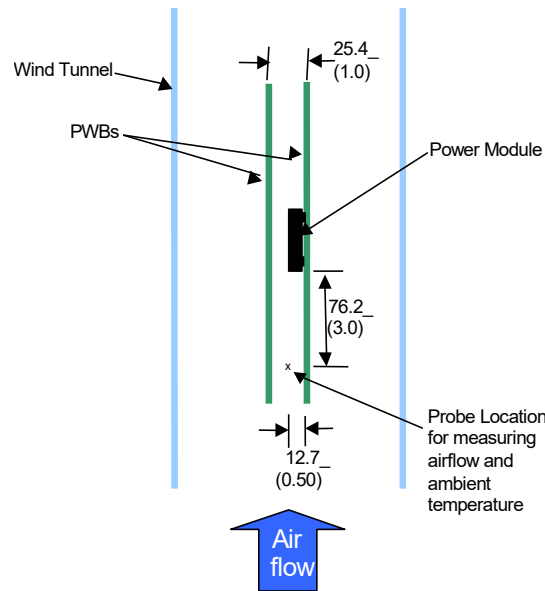

Figure 34. Thermal Test Setup.
Power modules operate in a variety of thermal environments; however, sufficient cooling should always be provided to help ensure reliable operation. Considerations include ambient temperature, airflow, module power dissipation, and the need for increased reliability. A reduction in the operating temperature of the module will result in an increase in reliability. The thermal data presented here is based on physical measurements taken in a wind tunnel. The test set-up is shown in Figure 34. The preferred airflow direction for cooling the module and the thermal reference points, Tref used in the specifications are shown in Figure 35. For reliable operation the temperatures at these points should not exceed 120°C (IC300) and 115°C (C202). The output power of the module should not exceed the rated power of the module ( $V_{o,set} \times I_{o,max}$ ). Please refer to the Application Note “Thermal Characterization Process for Open-Frame Board-Mounted Power Modules” for a detailed discussion of thermal aspects including maximum device temperatures. Increased airflow over the module enhances the heat transfer via convection. The thermal derating of figures 2, 8, 14 and 20 show the maximum output current that can be delivered by each module in the indicated orientation without exceeding the maximum Tref temperature versus local ambient temperature (TA) for several air flow conditions. The thermal derating curves were generated using a 12 layer evaluation board with 3oz copper in inner layers and 2 oz in outer layers.